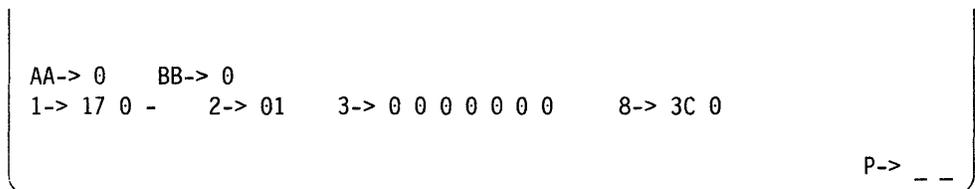

Figure 3-14. Port Number in First Dash Position
- f. Press the Cursor Up key until this port number appears in the position of the first dash beside Field 1 on the display screen (see Figure 3-14).